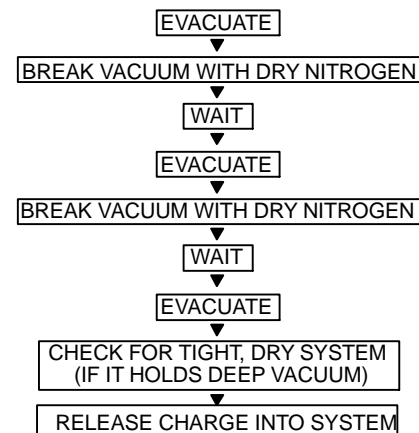

Fig. 18 — Triple Evacuation Method
Refer to Fig. 18 and proceed as follows:
5. Repeat this procedure as indicated in Fig. 18. The system will then be free of any contaminants and water vapor.